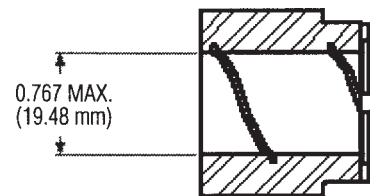

figure 13
1. Inspect the bushings (items 4A, 4B) - The silicon carbide parts will not wear under normal operation. Polishing on a silicon carbide surface is a normal occurrence and usually does not require replacement. Check for signs of melting around the perimeter of the bushings. Make sure that the spiral groove on the bushing ID is not plugged. Check for chips or cracks on the rear face. Check bushings for wear (see figure 13). If the bushings appear worn, follow the steps listed in the section "Replacing Wear Components, Impeller Bushings".
4. Press on face of rear impeller bushing until (2) bushings (item 4A) and (1) spacer (item 4B) have been removed. Check for excessive wear (see figure 13).